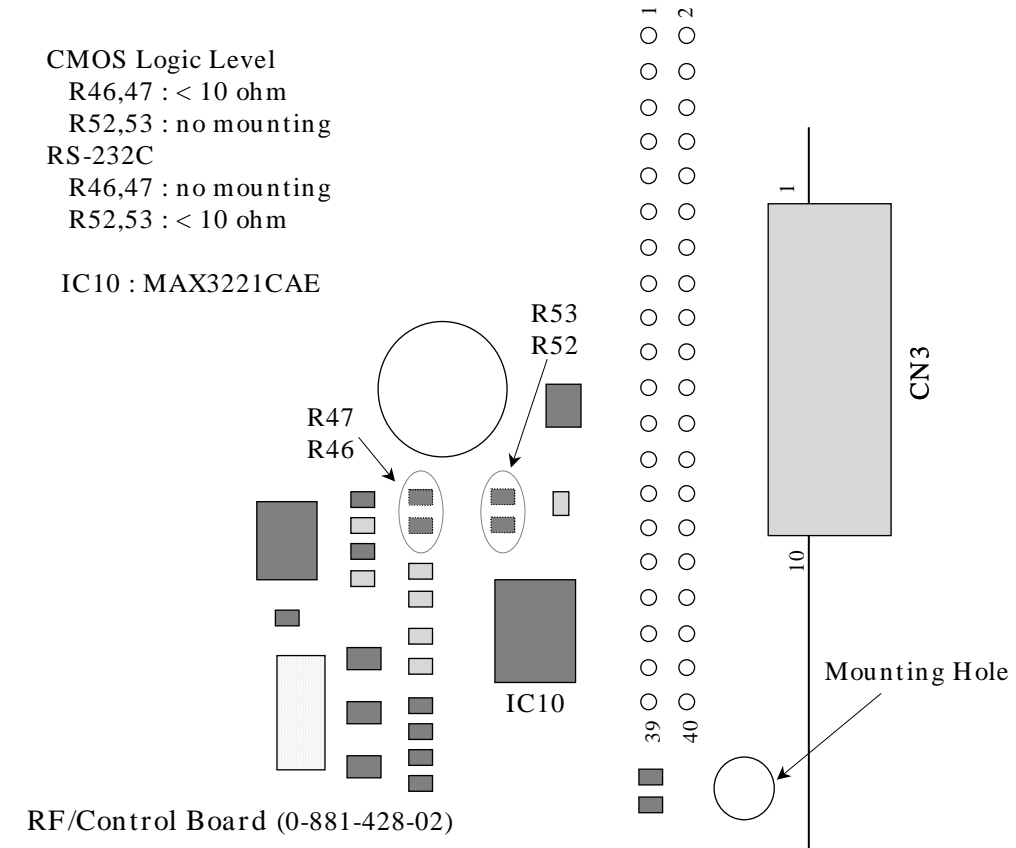

Fig.5 : Placement of Parts for RS-232C or CMOS Interface
- Common pins are assigned for RS-232C and CMOS logic level. CMOS logic level can be available instead of RS232C for RC-S445C by mounting 2 resistors R46-47 and removing 2 resistors R52-53 which are located near the right, lower corner of the RF/Control board as shown in Fig.5.